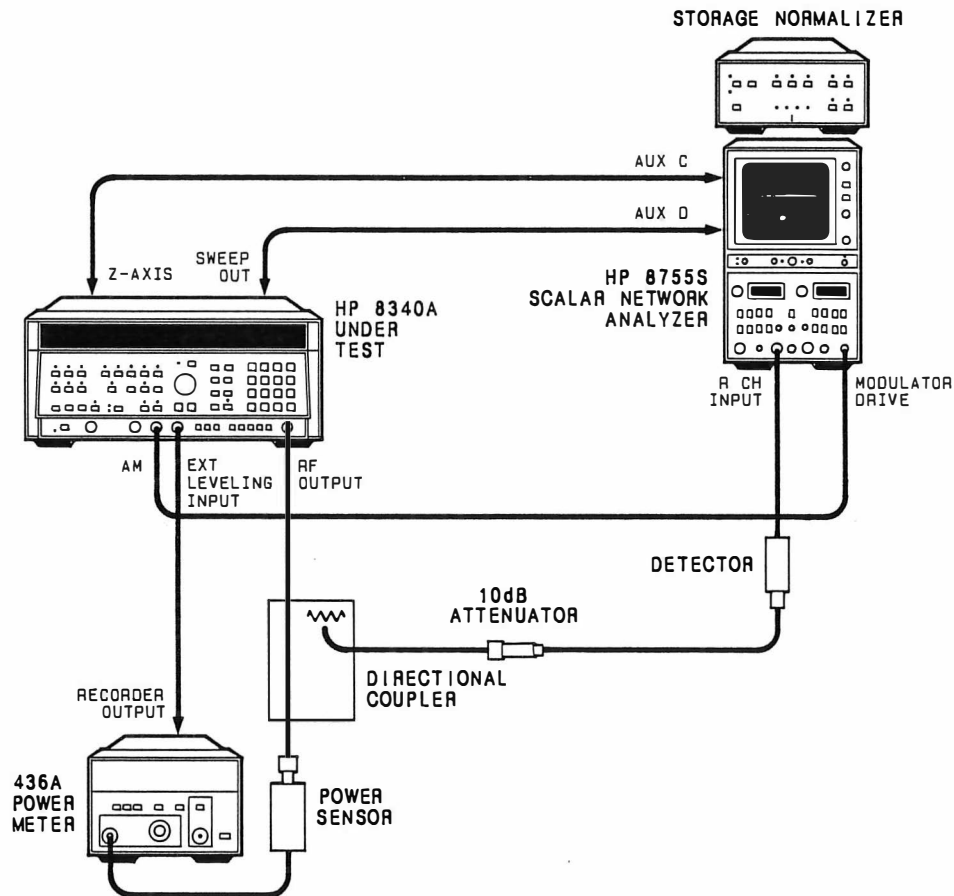

Figure 5-60. Flatness Adjustment Equipment Test Setup
- Connect the equipment as shown in Figure 5-60. Press HP 8340A [CW] and enter [5] [GHz]. Press [RF] to turn RF power off. Zero the power meter. Press [RF] to turn RF power on. The power level should be 0 dBm. Press the 436A [RANGE HOLD].